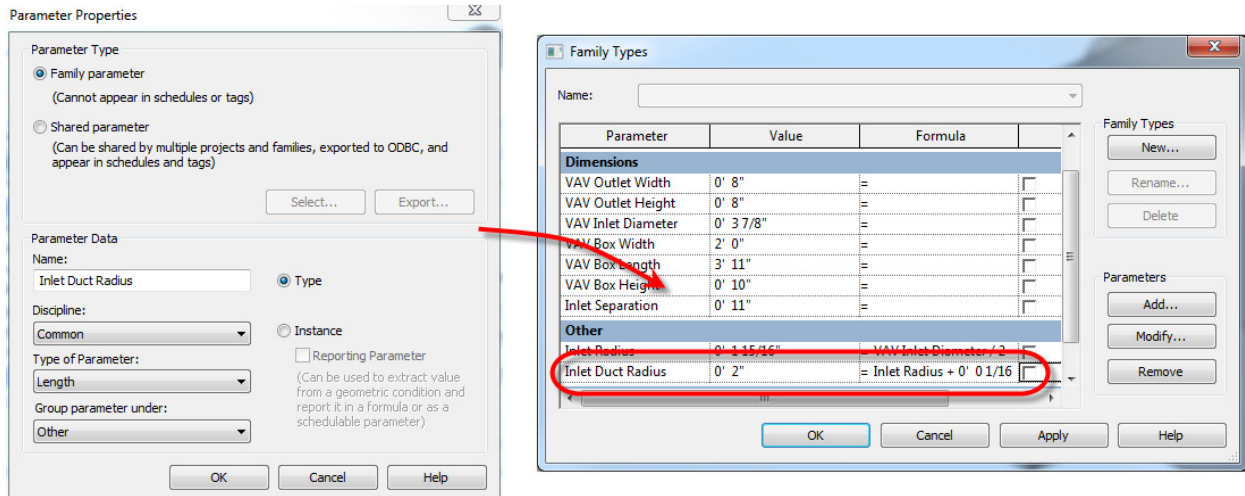

Figure 46. Establishing the *Inlet Duct Radius*.
2. In the Parameter Properties dialog name the parameter "Inlet Duct Radius". Make its *Type* **Length**, group it under *Other* and leave it as *Type*-based as shown in Figure 46. Click **OK** to return to the Family Types dialog. In the *Formula* column next to *Inlet Duct Radius* enter the formula: **Inlet Radius + 1/16"** as shown in Figure 46. Click **OK**.